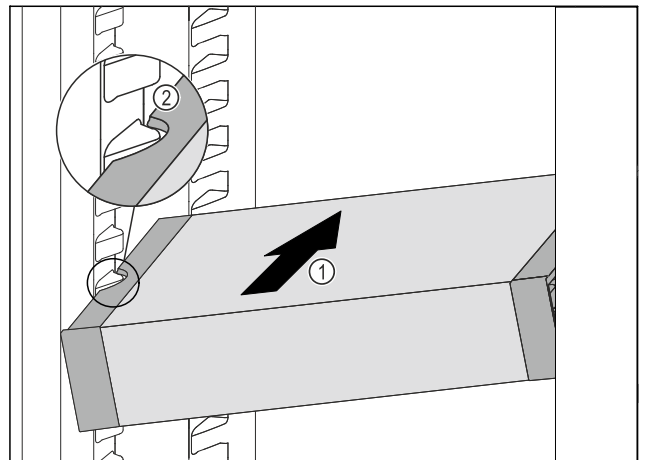

Fig. 53
- Insert the VarioSafe into the refrigerator compartment at an angle Fig. 53 (1) until the recesses in the side Fig. 53 (2) of the VarioSafe are at the level of the support rib in the refrigerator compartment.